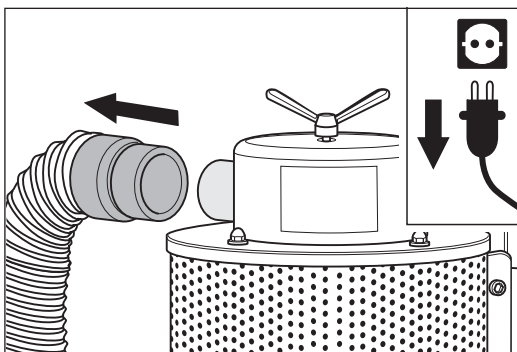

Fig. 53 Pull the suction hose from the neck of the upper part of the separator.
- 4 Pull the suction hose from the neck of the upper part of the separator (fig. 53).